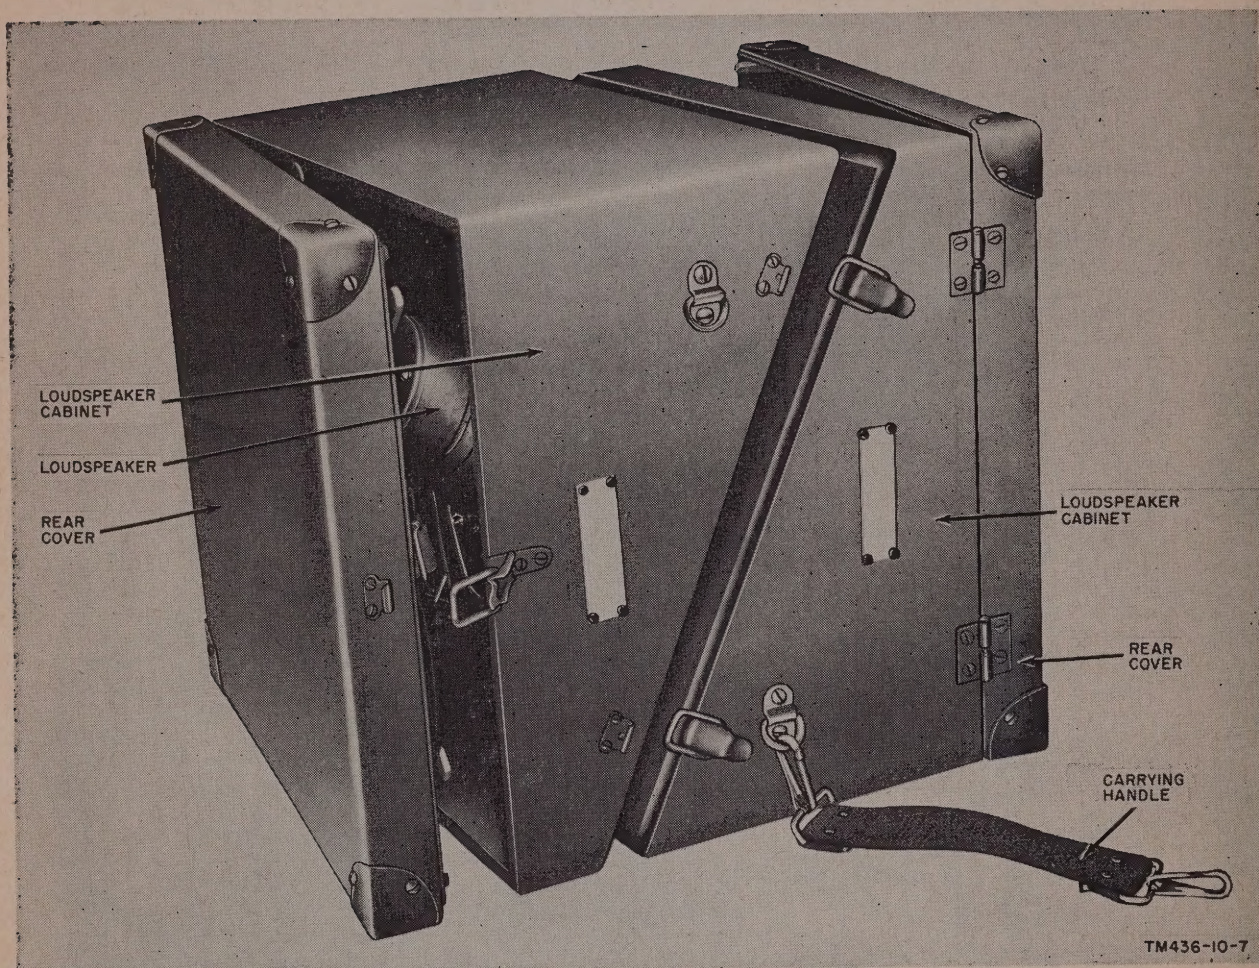

Figure 3. Loudspeaker Assembly LS-148/U.
- (2) *Loudspeakers* (fig. 3). Each loudspeaker is housed in a section (cabinet) of the loudspeaker assembly case, and has two connectors to accommodate the loudspeaker cable connectors ((3) below).